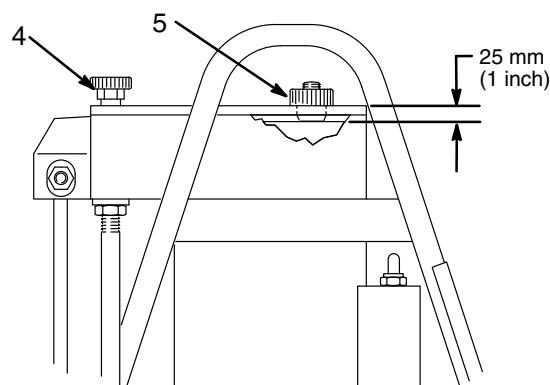

Fig. 11
See Fig. 11.
7. Lubricate the screws (25) and then install and torque them to 170–200 in-lb (19–23 N.m).
8. Check the hydraulic oil level and add Graco-approved oil as necessary until the level is 1 inch (25 mm) from the top of the plate. See Fig. 11.